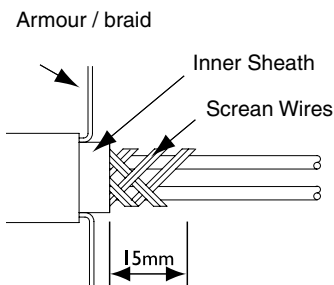

Fig. 1
- 2.2. Remove a further 15 mm of inner sheath (See Fig. 1).